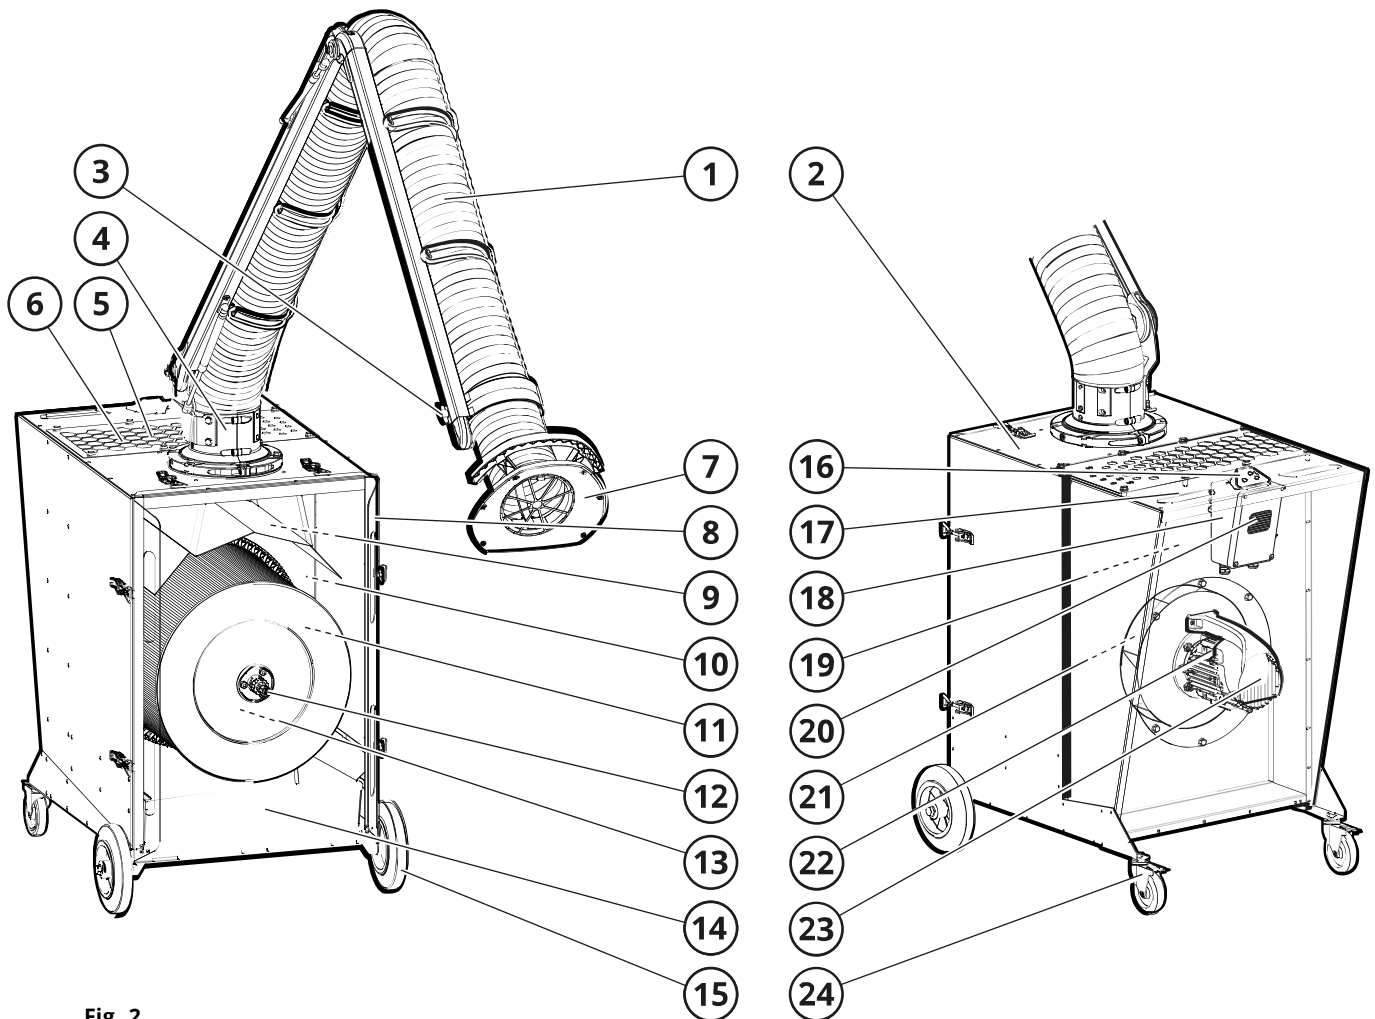

Fig. 2
See Fig. 2.
Contaminated air is drawn in via the extraction arm (1, **Fig. 2**) to the dirty side of the machine (10), where the air is cleaned through the filter cartridge (11). The degree of filtering is $\geq 99\%$ for smoke and dust contamination from the welding of high-alloy steels, such as steel with a nickel and chromium content of 30% or higher. The clean air is then drawn through the impeller (21) and discharged from the clean side of the filter unit (19) through the exhaust grille (5).